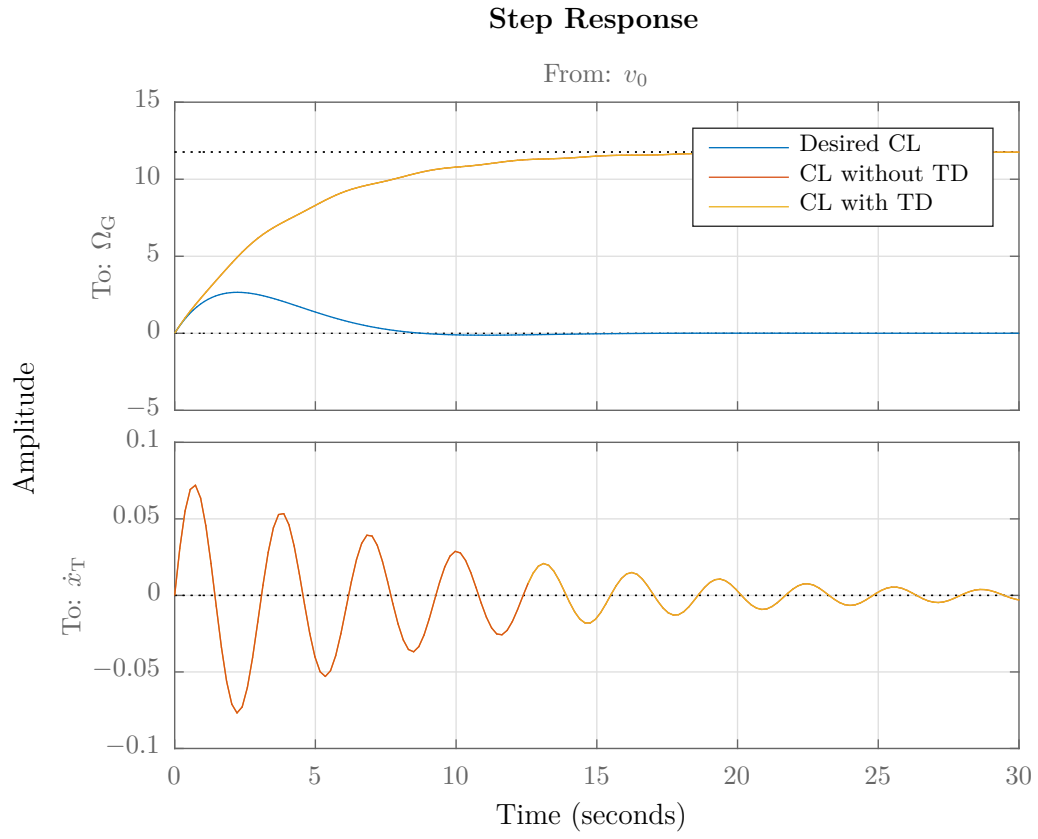

Figure 1: Start of tower damper design exercise.
- Test the script Exercise05_TowerDamperDesign.m. You should get a plot like Figure 1. Please take your time to understand what the script does. Use the help function for unknown commands.
- Please adjust the Pitch Controller (PC) in step 4 using the parameter `kp` and `Ti` and the definition of the PI controller in the Laplace domain. What are the damping and frequency of the poles of the rotor motion from the desired closed-loop? How do they change when coupled with the tower motion? What are the damping and frequency of the coupled tower motion?